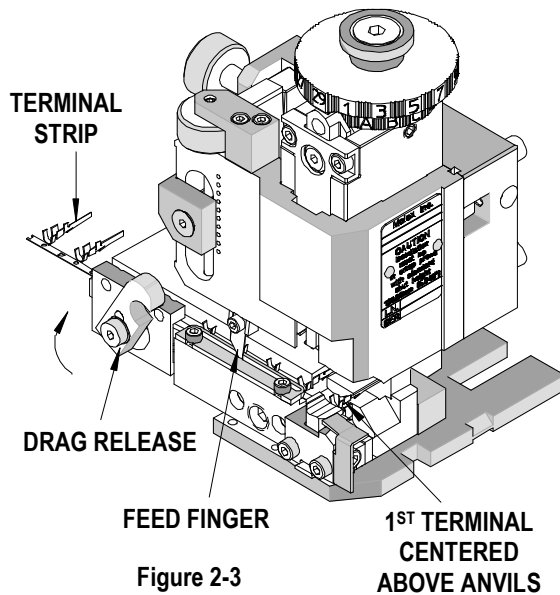

Figure 2-3
3. Rotate the drag release until the drag frame is in the upright position. This will allow the terminal to slide with ease through the applicator track. See Figure 2-3.
9. Raise feed finger and pull terminal strip back until disengaged from applicator track. See Figure 2-3. If preferred, cut the terminal carrier strip and pull it through the applicator with needle nose pliers.